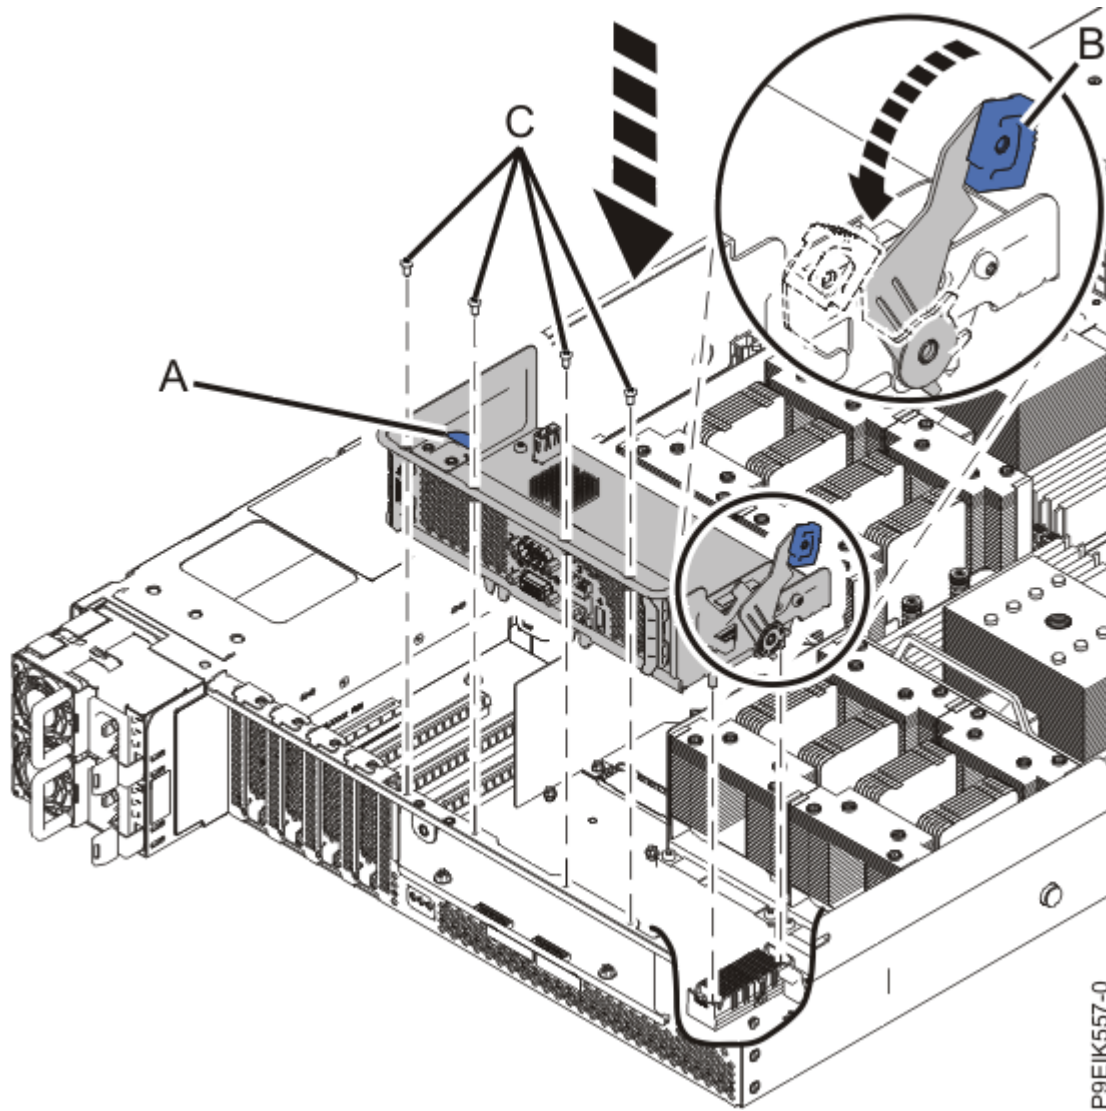

Figure 3. Replacing the BMC card
4. Using the blue tab at **(A)** and the handle **(B)** as shown in Figure 3 on page 6, press the BMC card into the connector on the system backplane.